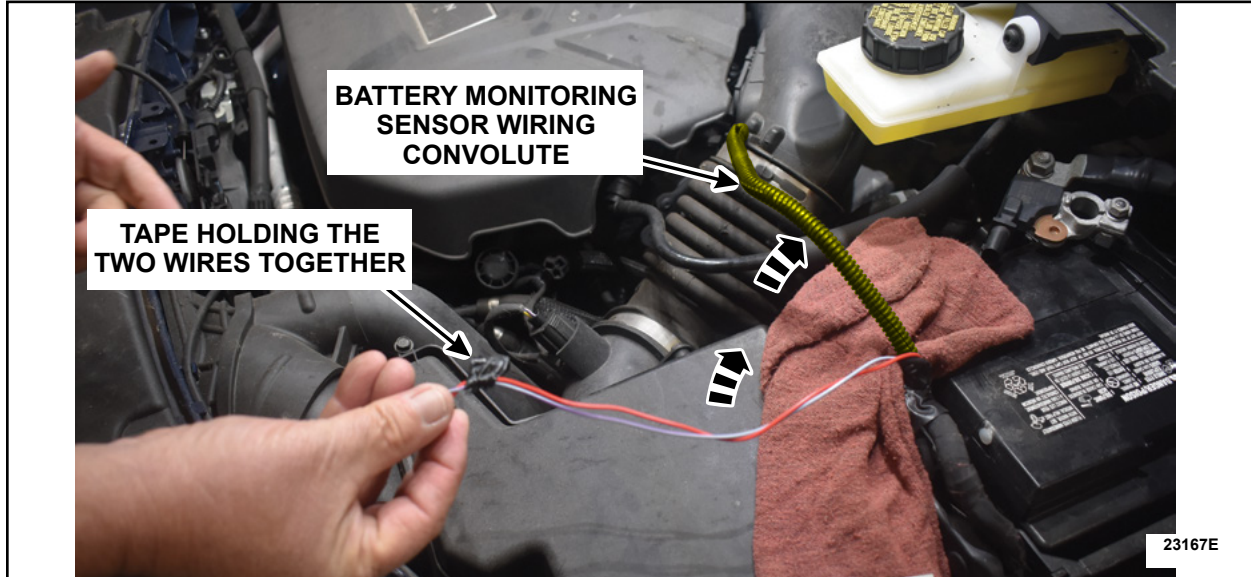

FIGURE 2
3. Remove and discard the tape from the BMS wiring harness up to the main battery harness. Then, detach the convolute from the BMS wiring harness and position aside as shown in Figure 2.
4. Remove and discard the piece of tape holding the two (2) BMS wires together. See Figure 2.